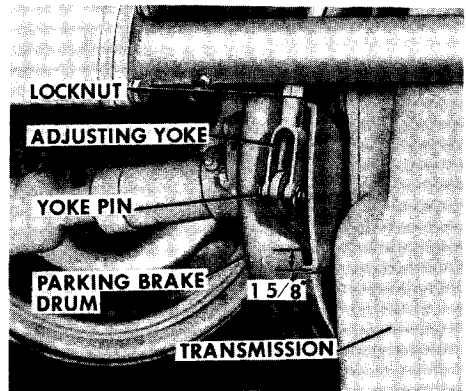

Figure 77
The rod and yoke adjustment is made by removing the yoke pin from the brake lever and loosen the lock nut, Figure 77. The yoke can then be turned on or off for the required adjustment. Tighten the lock nut after adjustment has been made.
1. Disconnect the adjusting yoke from the brake lever, Figure 77.